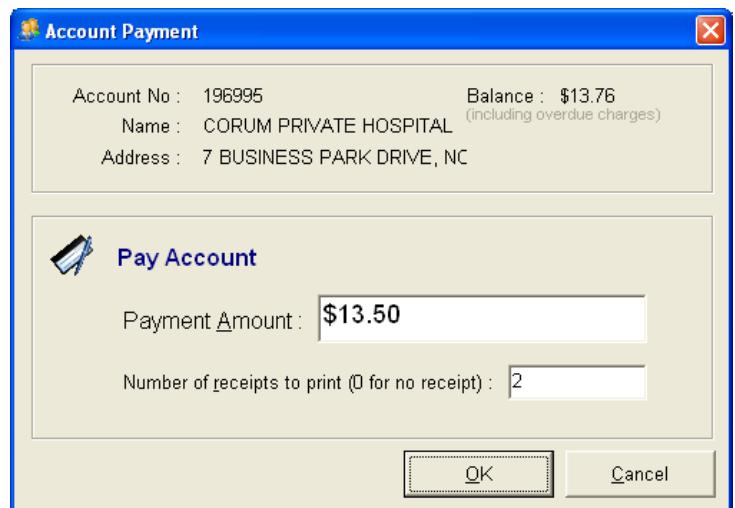

Figure 318
2. This will display the 'Account Payment' window for the selected debtor (see Figure 318).